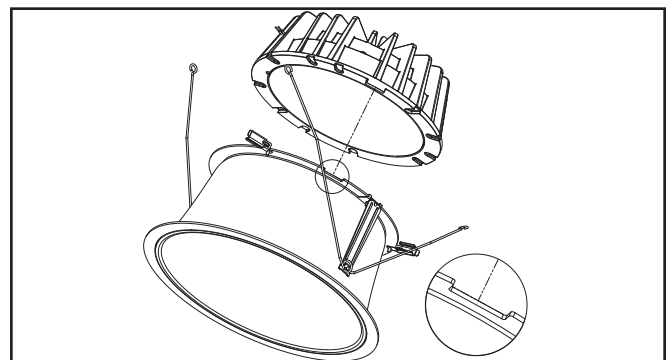

Figure 5.
2. Place LED Engine onto Lower trim. Align post on LED Engine with slot on trim assembly (Figure 5).